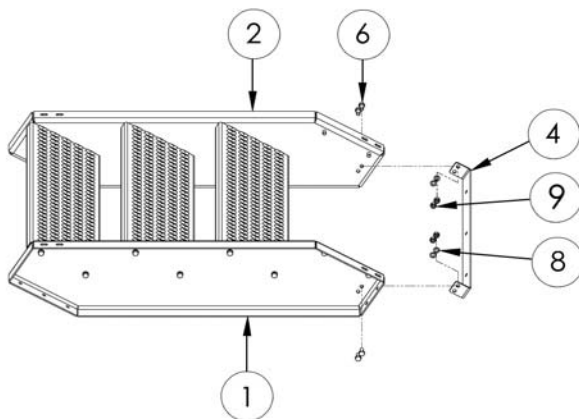

Fig. 3: Assembly step 3
STEP 2 As shown in Fig. 3, fasten the steps (#3) to the side rails (#1 & 2) with bolts and washers (#6 & 9). To simplify assembly, loosely fasten the top and bottom steps to the siderails, followed by the middle steps. Orient steps with the grip struts on top. After loosely fastening each step, fully tighten the connections.